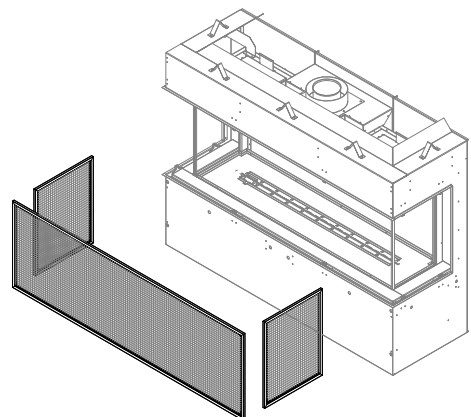

Figure 4.10 - Remove Screen Barriers
2. Remove the exterior safety screen, exterior media tray, firebox glass, and crushed media. You may find it beneficial to remove the lower glass brackets for increased accessibility. Figure 4.10, 4.11, and 4.12.